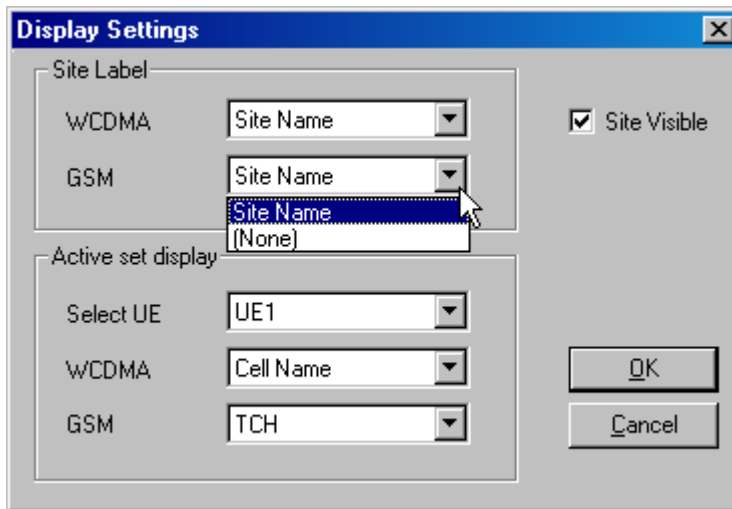

Figure 6-15 Display Settings dialog box
- 3) In the **Display Settings** dialog box, select the **Site Visible** check box, as shown in Figure 6-15.